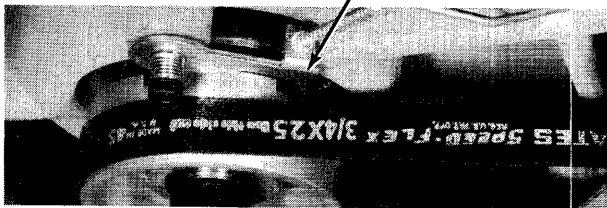

Figure 4-13. Spindle Lock Check
- g. Check spindle lock for freedom of movement and alignment (see Figure 4-13).